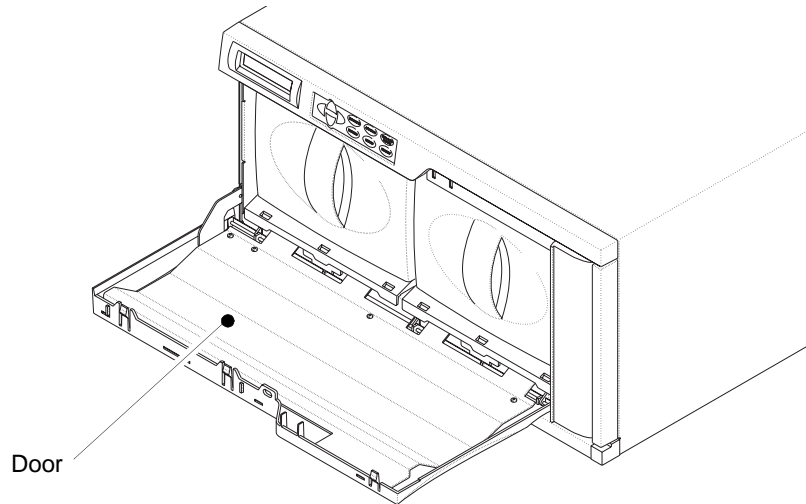

Figure 4-1 Opening the library's door
4. Pull open the door, as shown in Figure 4-1.